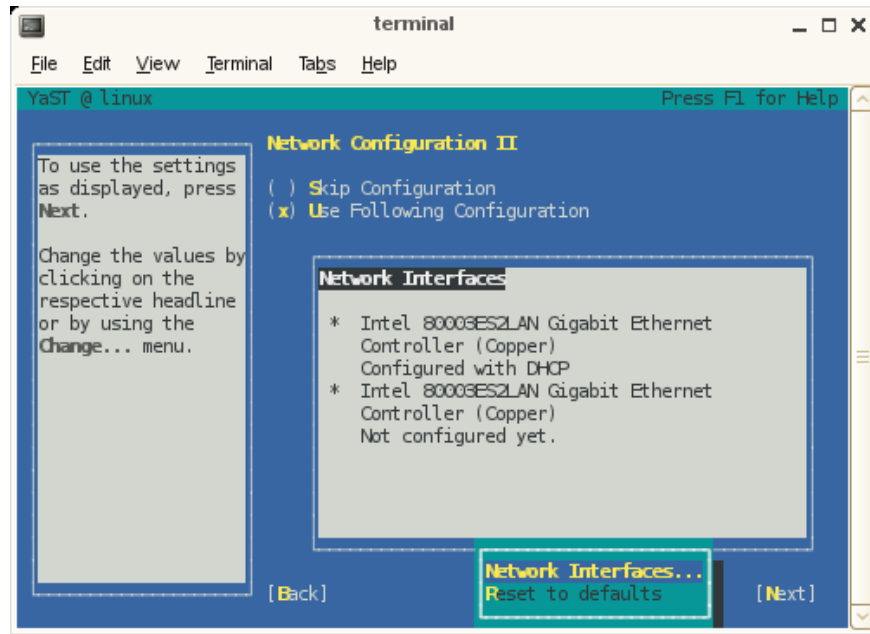

Figure 2-4 Network Card Configuration Interfaces Screen
8. From the **Network Card Configuration Interfaces** screen, shows the suggested configuration as shown in Figure 2-4 on page 37. Click **Next** to continue.